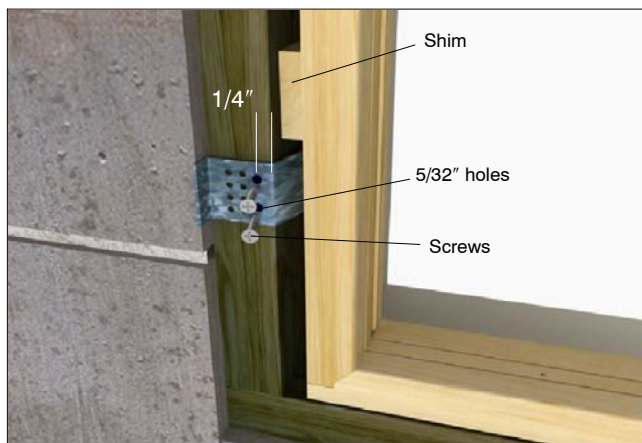

Figure 8
1. Depending on construction method or wall type, you may need to modify the structural masonry clip to fit the opening. Once bent around the framing or opening, drill two 5/32" (5) holes in the bracket no more than 1/4" (6) from the edge of the framing. See figure 8.